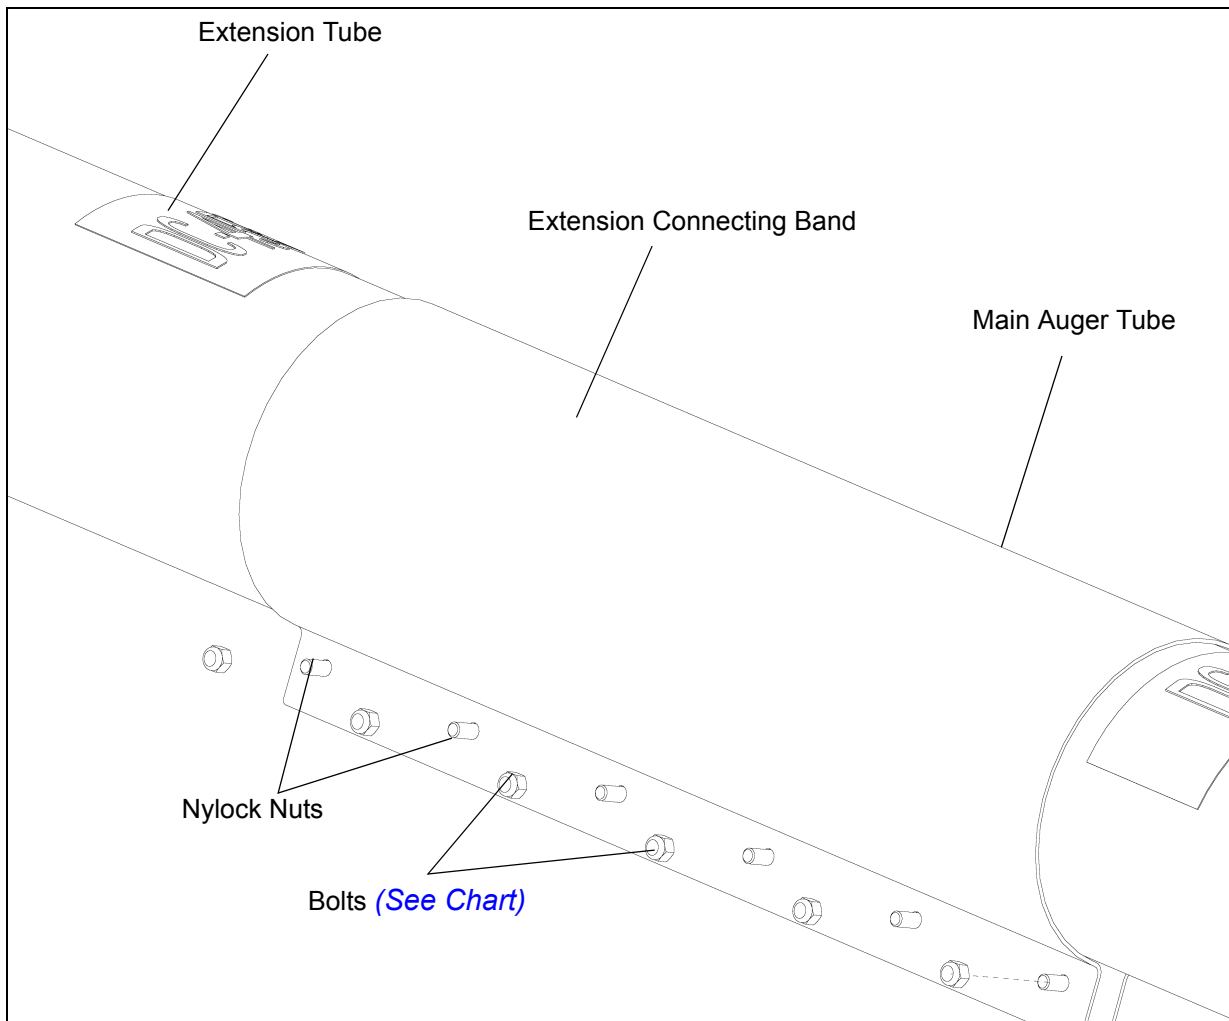

Figure 4D
- Slide the extension connecting band over the two sections of tube, making sure the connecting band is centered over the mated surfaces of the tubes. Tighten the connecting band down using the correct Hex Bolts and Nylock nuts (See Chart) and (Figure 4D).